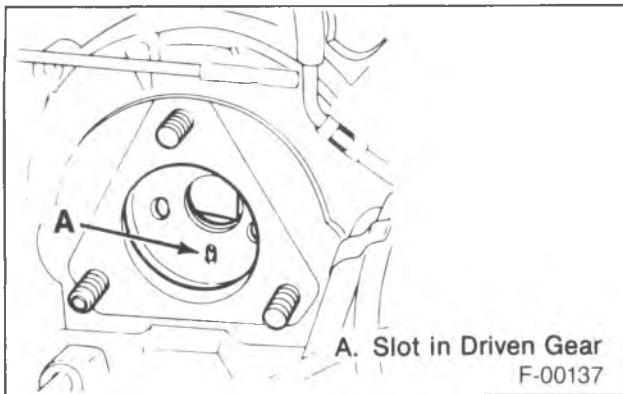
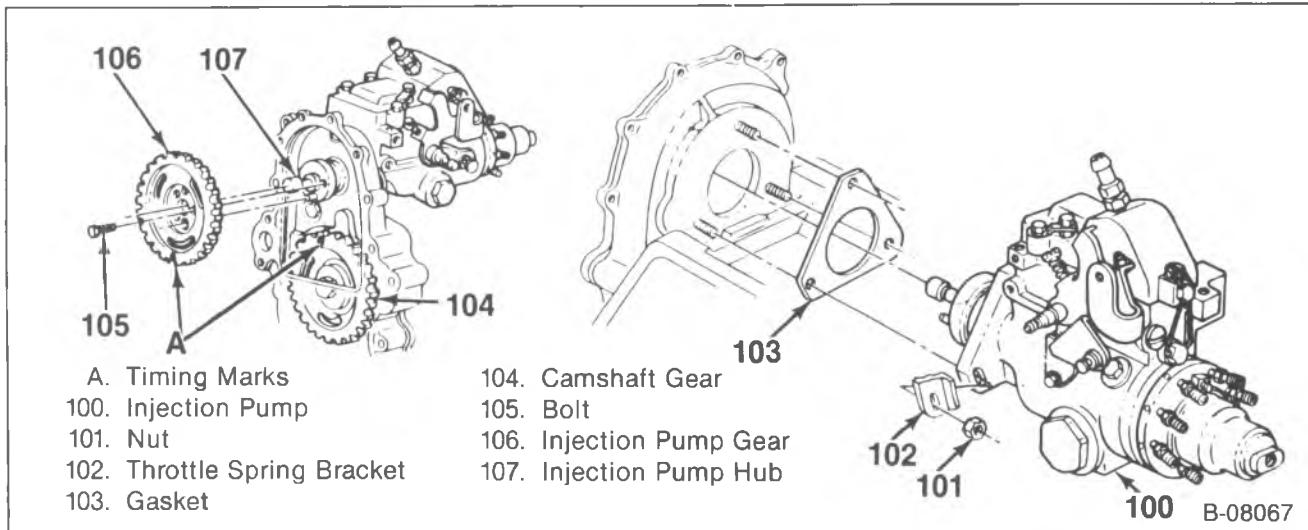

Figure 41—Slot in Injection Pump Gear
Figure 44—Injection Pump
- Set the injection pump gear (106) (figure 44) in place, aligning the timing marks on the injection pump and camshaft gears, as shown. The slot in the injection pump gear should be in the vertical 6 o'clock position (figure 41). If not, remove J 33042 and rotate the engine crankshaft 360 degrees.
Install or Connect (Figure 44)
- Align the timing marks (figure 44).
- Bolts (105).
Tighten (Figure 44)